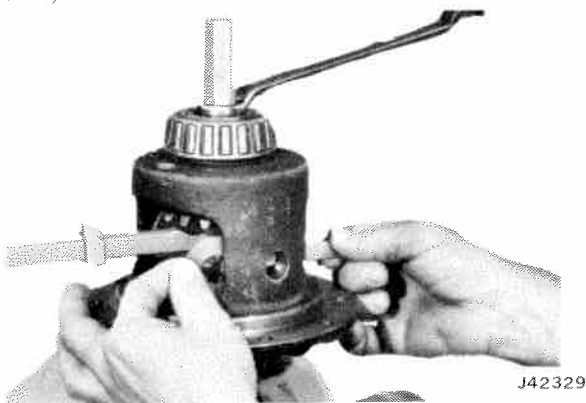

Fig. 10-41 Removing Pinion Mate Washers
(8) Thread forcing screw so that it becomes centered into step plate. Tighten forcing screw. This will move the side gears away from pinion mate gears and relieve load between gears, allowing only pinion mate gears to be loose.
(9) Remove both pinion mate spherical washers. Use a shim stock of 0.030-inch thickness or an equivalent tool to push out spherical washers. Relieve tension of Belleville spring by loosening forcing screw (fig. 10-41).